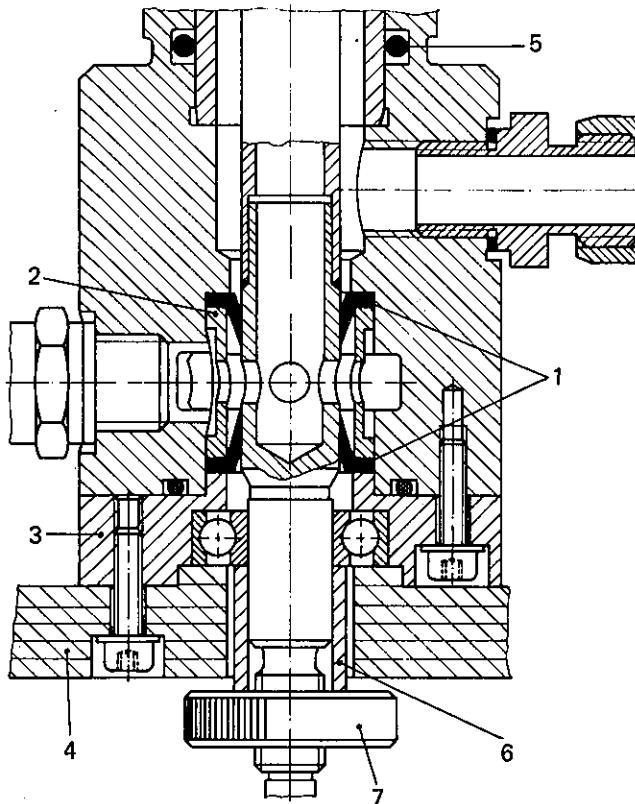

Fig. 9
- b. Fit the gland seal (14/24 x 7 mm) with the seal lip facing downwards (Drawing! Fig. 9, item 1)
- d. Fit the gland seal (14/24 x 7 mm) with the seal lip facing upwards (Fig. 9, item 1)